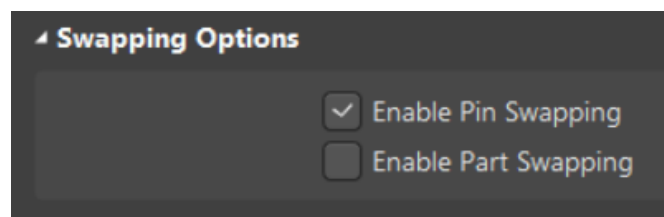

Figure 3. Component Properties U1
14. Look for the Swapping Options section and tick the **Enable Pin Swaps** checkbox, as shown in Figure 3 below.